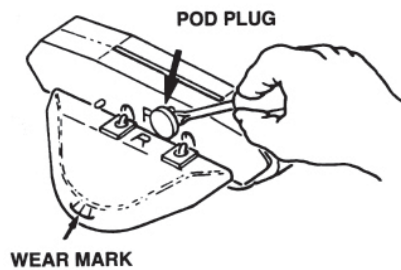

Figure 9
1. Check the condition of the “shoes, wings and flaps” periodically. The shoes and wings have wear indicators on their sides and should be checked occasionally to determine if they need replacing. The shoe wear indicator is a line on the side of the shoe that appears as a difference in texture. When this texture difference is no longer visible at the bottom of the shoe when viewed from either side, the shoes must be changed (*see Figure 8*). Also on the side, the wing wear indicator is a horizontal line which has three (3) vertical lines above it. When you can no longer see the horizontal line, the wings must be changed (*see Figure 9*). The Hayward **Navigator Tune-Up Kit** is available from your dealer. Shoes, wings and flaps may also be purchased separately.
- a) Using a screwdriver, remove the plugs from both pods (*see Figure 9*).